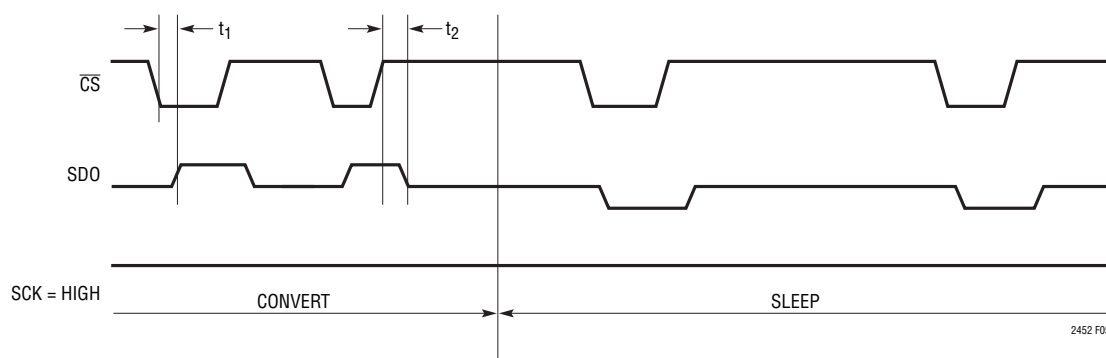

Figure 5. Conversion Status Monitoring Mode
**Note 8:** See Figure 5.
For certain applications, the user may wish to monitor the LTC2452 conversion status. This can be achieved by holding SCK HIGH during the conversion cycle. In this condition, whenever the  $\overline{CS}$  input pin is pulled low ( $\overline{CS}$  = LOW), the SDO output pin will provide an indication of the conversion status. SDO = HIGH is an indication of a conversion cycle in progress while SDO = LOW is an indication of a completed conversion cycle. An example of such a sequence is shown in Figure 5.